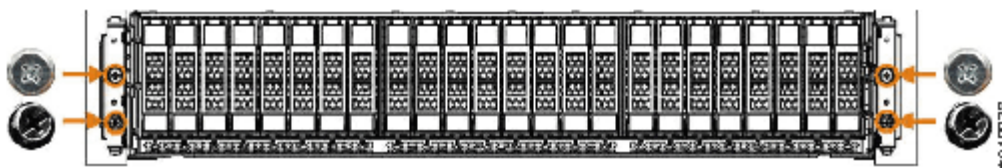

Figure 63. Four screws at the front of the enclosure
6. Unscrew the four M5 screws that secure the left and right end caps of the control enclosure to the rack, as shown in Figure 63 on page 112.